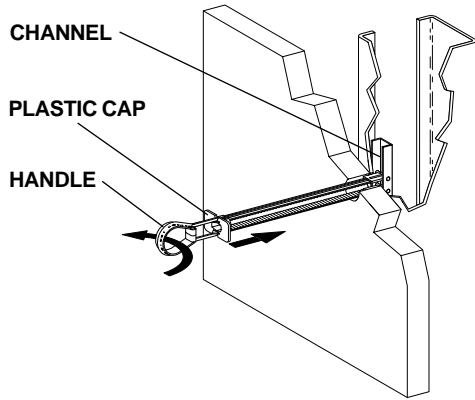

FIGURE 5
15. Pull on the handle of the toggle bolt anchor, **without bending the plastic straps**, until the channel rests flush on the stud (see *Figure 5*).
16. While keeping the plastic straps tight, slide the plastic cap (see Figure 5) down the plastic straps until it is flush with the wall. Release the handle.